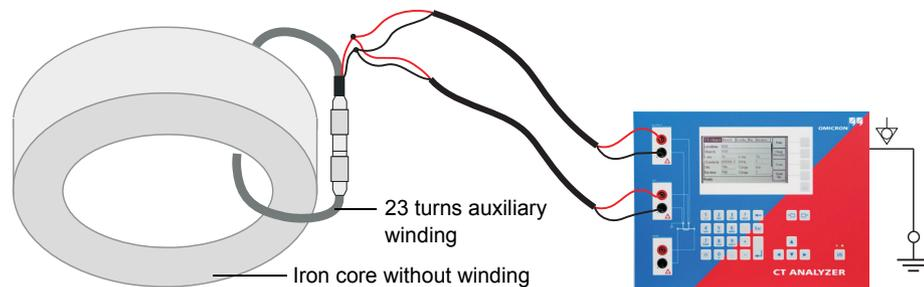
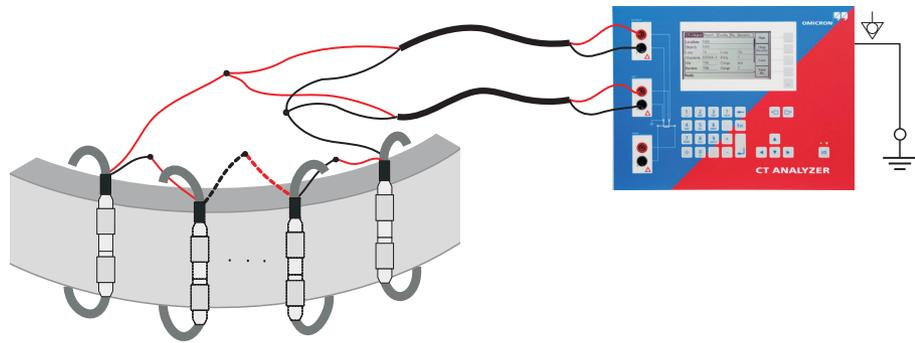

Figure 4-8 Excitation curve measurement using one "auxiliary winding" cable
Figure 4-9 Excitation curve measurement using several cascaded "auxiliary winding" cables
Proceed as follows to perform the measurement (refer to Figure 4-8 and Figure 4-9):
1. Connect the *CT Analyzer's* equipotential terminal to protective earth (PE).
3. Connect the "Output" sockets and input "Sec" of the *CT Analyzer* to the cable as shown in Figure 4-8. For cores that require high currents to reach the knee point, several cables can be cascaded to increase the number of turns, see Figure 4-9.